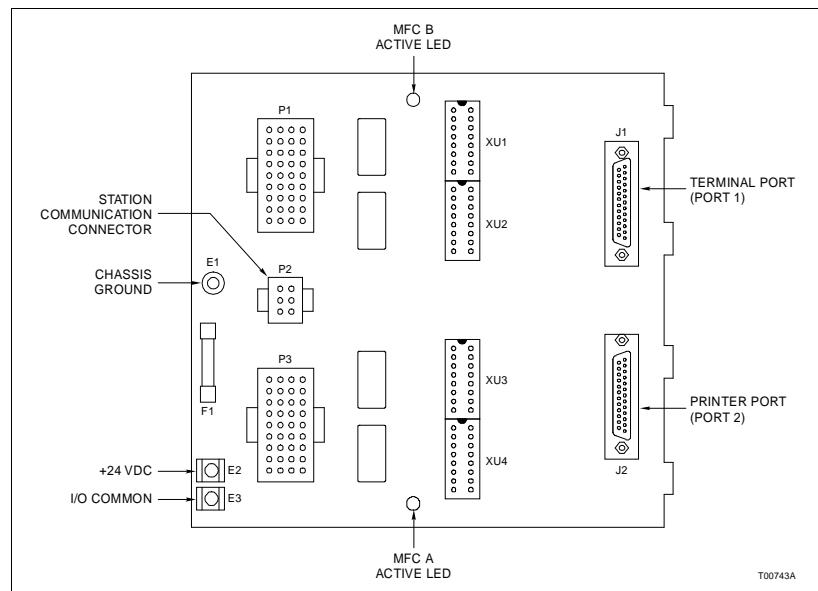
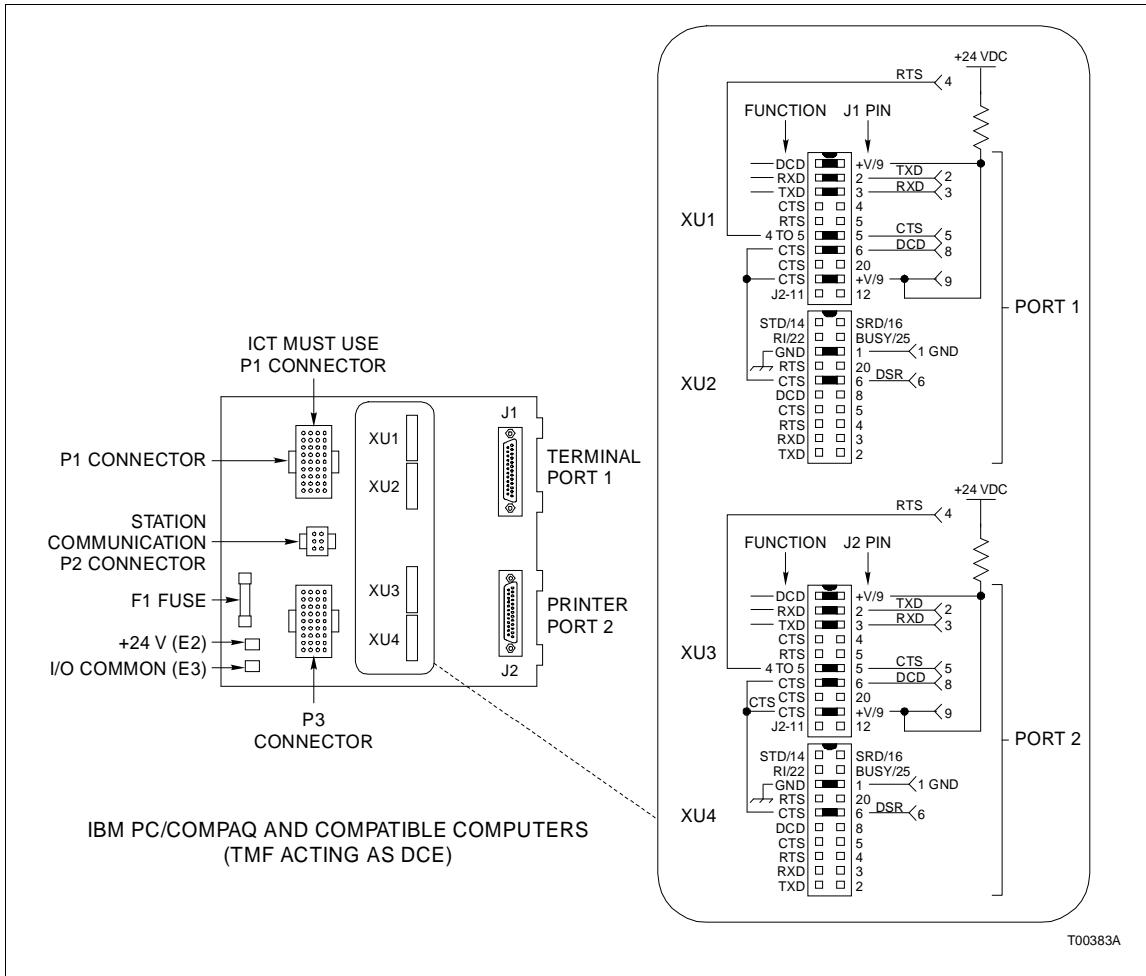
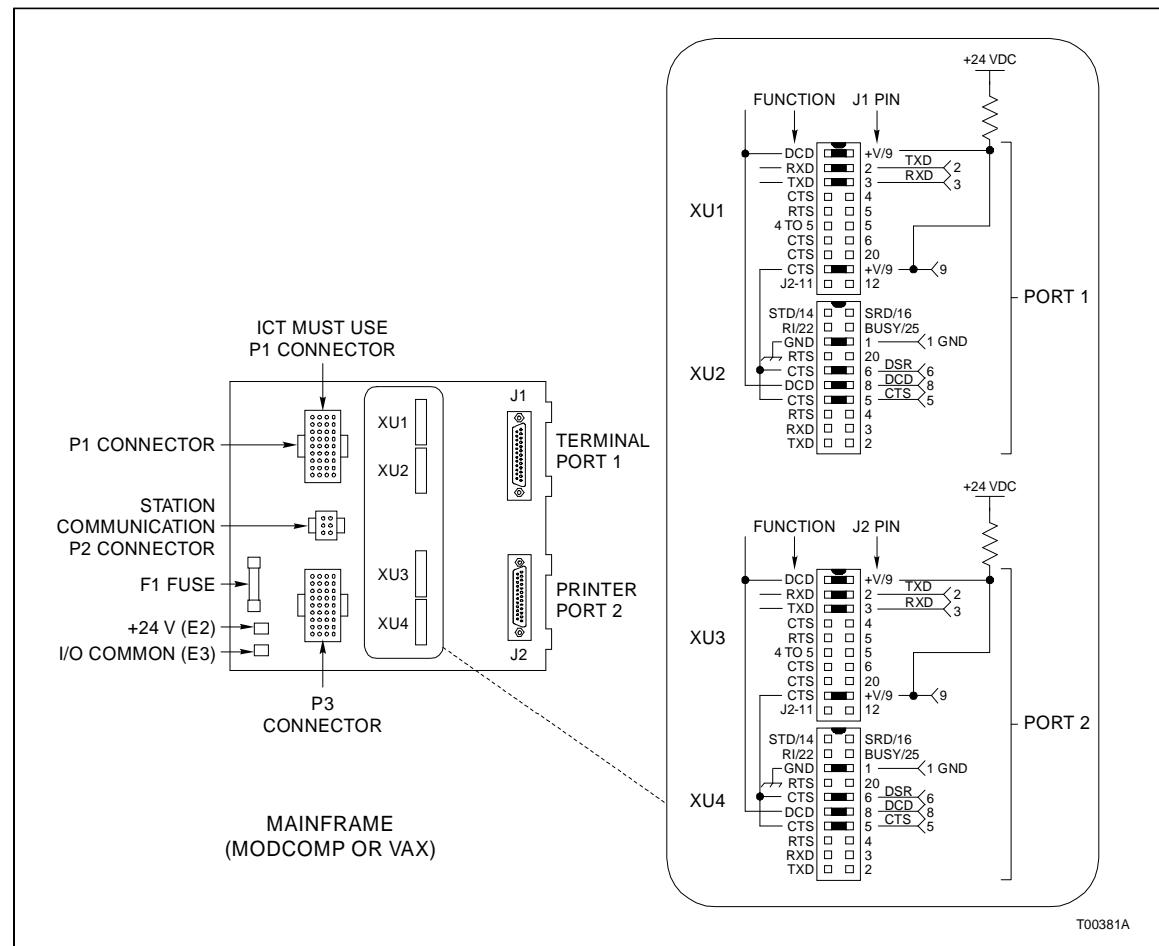
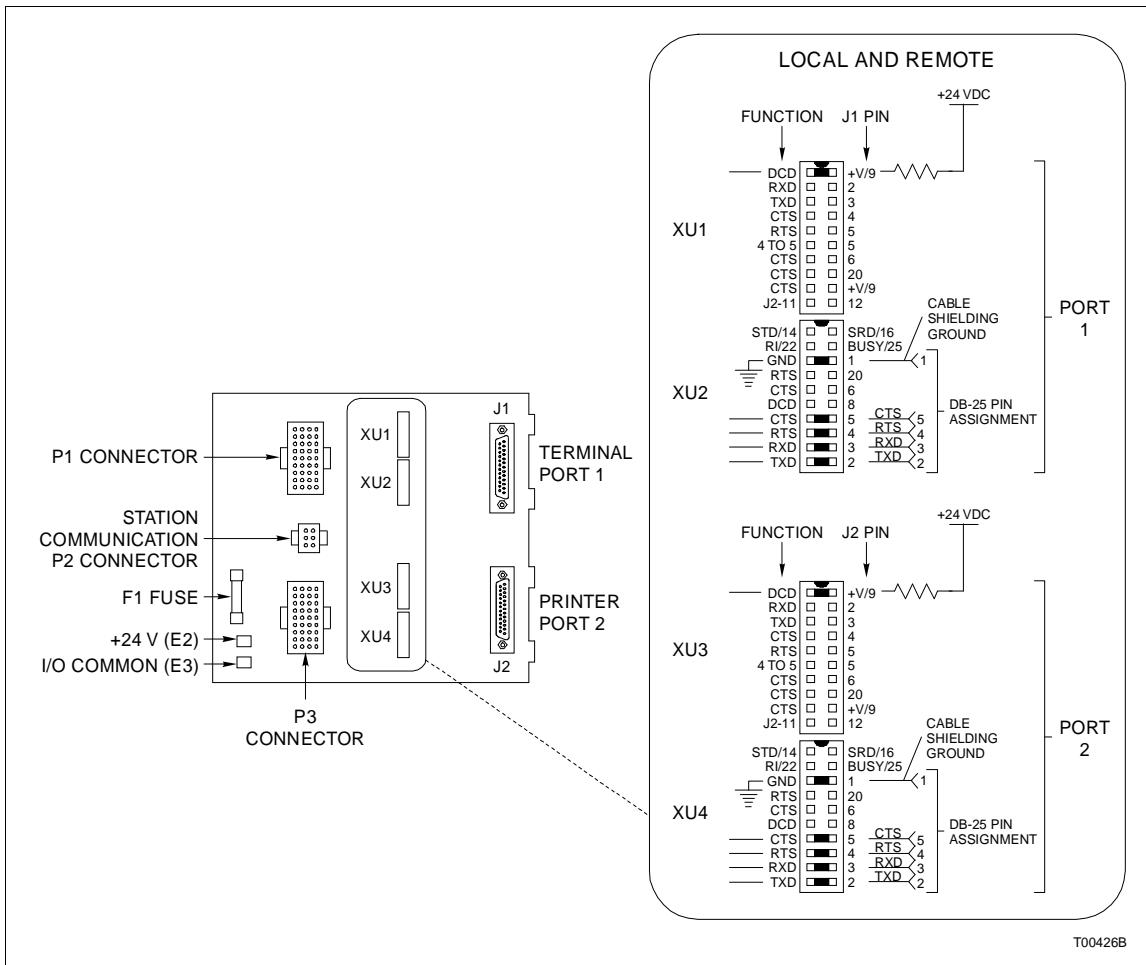

Figure 2-1. TMF Unit Connector Assignments and Dipshunt Locations
Figure 2-2. Dipshunt Configuration for Direct Connection to Host Computer (IMMFC03 and ICT Modules)
Figure 2-5. Dipshunt Configuration for Direct Connection to Mainframe Computer (ICT Module)
Figure 2-6. Dipshunt Configuration for PPT Module Acting as DTE
Configure dipshunts XU1/XU2 and XU3/XU4 so that their respective ports operate as DTE or DCE devices. Port two can be used to interface a diagnostic terminal. Figure 2-1 shows the connector assignments and dipshunt location on the termination unit. Install the appropriately cut dipshunts using Figures 2-2 through 2-4.
NOTE: The TMF dipshunt settings shown in Figures 2-2 through 2-4 apply to the IMMFC03 and INICT01 modules. Figure 2-5 applies only to the INICT01 and INPCT01 modules. Figures 2-6 through 2-7 show the dipshunt settings required when using the termination unit to terminate an INPPT01 module.
The INICT01 and INPCT01 modules can interface to a mainframe computer (MODCOMP or VAXstationTM). To set up the termination unit to terminate a mainframe, see Figure 2-5 and install the appropriate set of dipshunts (XU1/XU2 and XU3/XU4) as shown.
When the termination unit is used to terminate an INPPT01 module, use the dipshunt settings shown in Figures 2-6 through 2-8. To install the dipshunts:
1. If connecting a local plant loop (DTE) to a remote plant loop (DTE) through a modem or microwave link (DCE), use the dipshunt settings shown in Figure 2-6. Set the IMF termination
Bailey ships a 0.25 amp, 250 volt fuse (Bailey part number 194776A12500) with each termination unit. If this fuse is missing, install a fuse in the fuse holder (F1). Figure 2-1 shows the location of F1 on the termination unit circuit board.
3. Connect the chassis ground by installing a number ten self-tapping screw and external star washer in the location (E1) shown in Figure 2-1.
2. Insert the other end of the cable into P1 or P3 of the termination unit. See Figure 2-1 for the location of P1 and P3 on the TMF circuit board.
There is one faston (E2) that connects to +24 VDC and one faston (E3) that connects to I/O common. Figure 2-1 shows their locations on the TMF circuit board.